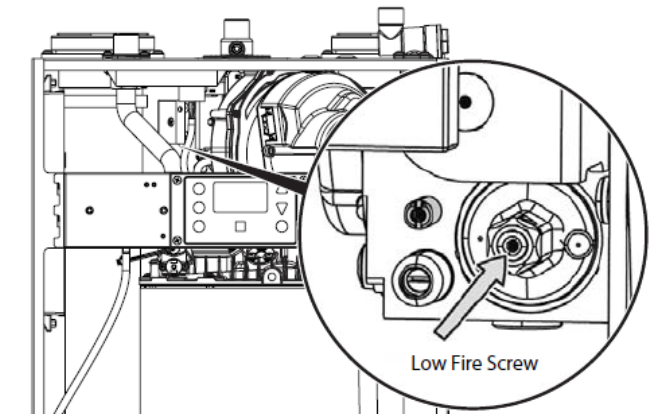

Figure 32 – Low Fire Offset Adjustment Location
- If necessary, adjust the Low Fire offset screw while the burner operates at low fire with a 2 mm hex wrench. See Figure 32.